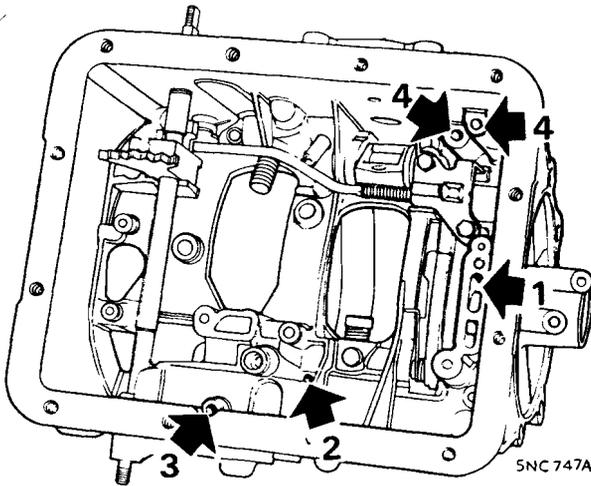

Fig. Dd.16
- (1) Apply air pressure to the passage (1, Fig. Dd.16). Listen for a thump, indicating that the clutch is functioning. With the unit on a bench, verify by rotating the input shaft with air pressure applied. Keep air pressure applied for several seconds to check for leaks in the circuit.